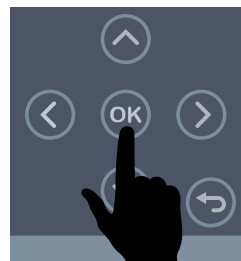

Figure 104. OK Button
1. From the View Menu on the digital controller, press the **OK button** (Figure 104) on the digital controller.